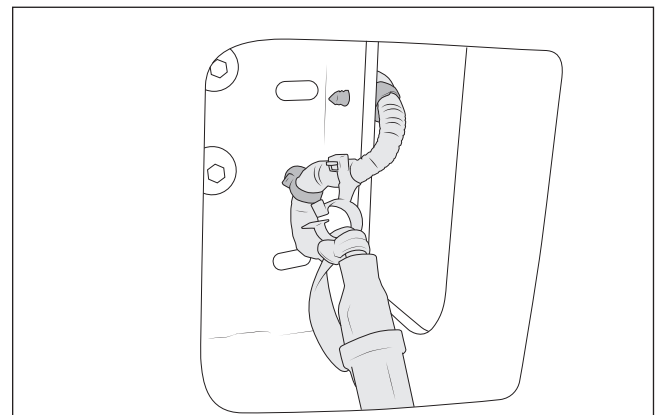

Figure 33
6. Attach the block heater wiring to the bumper as shown (fig.33).